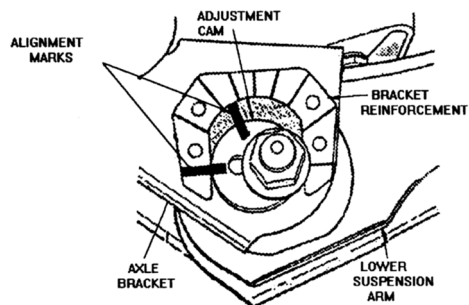

Figure 2
6. 1997 model TJ only: Mark the position of the alignment cam adjusters located at the end of each front lower control arm at the axle **Figure 2**.